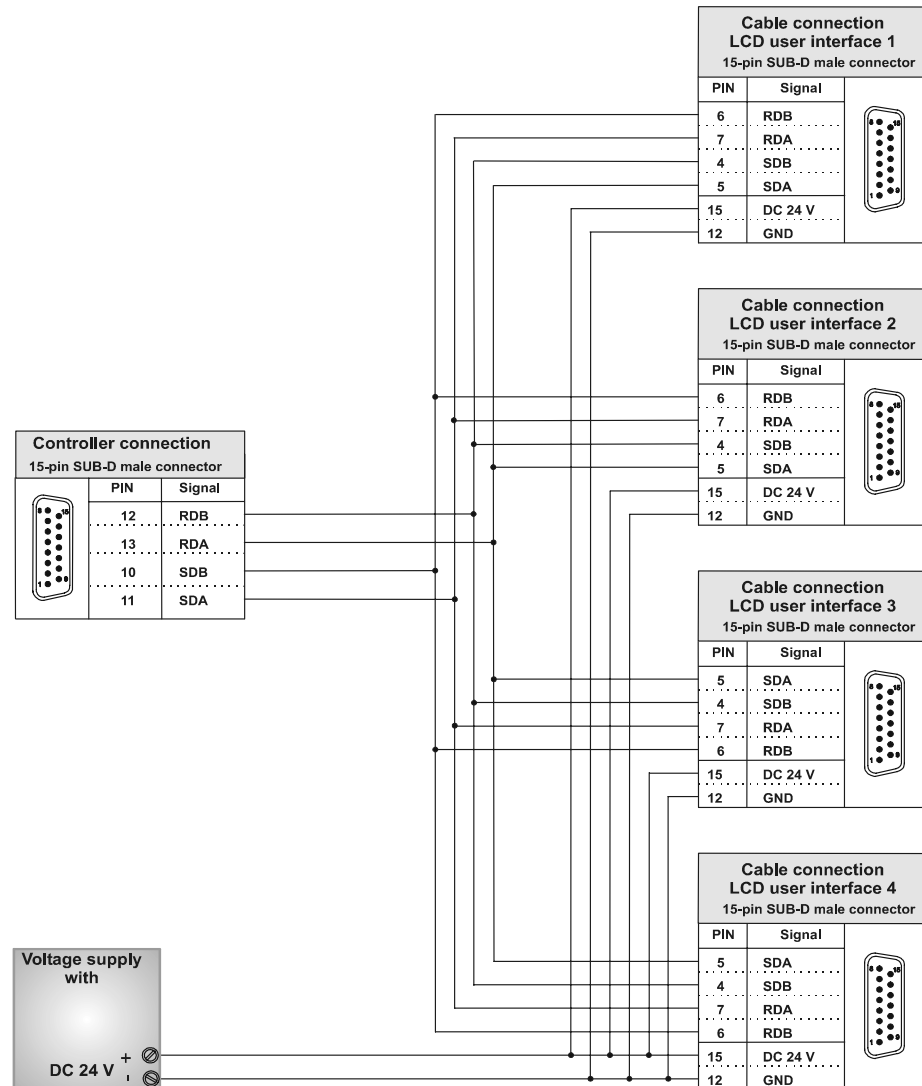

Fig. 5: PIN Assignment of the Connection Cables for More than One LCD User Interfaces
- Different from the standard design, the connection cables must be altered according to Abb. 5, Seite 17 .